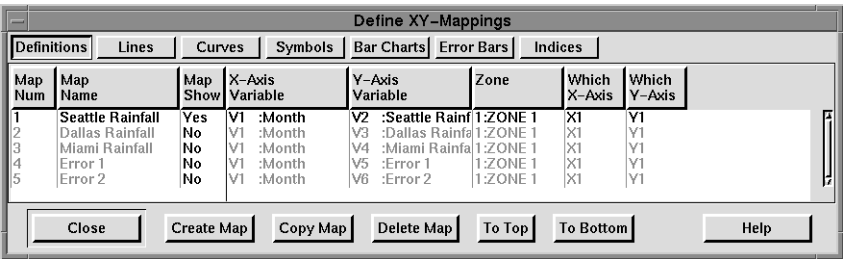

Figure 8-2. The Define XY-Mappings dialog.
1. From the XY menu, select Define XY-Mappings. The Define XY-Mappings dialog appears. Figure 8-2 shows the demo file **rain.plt**.